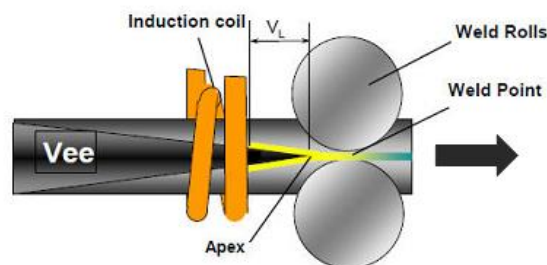

Fig. 1 – Joining of pipes by HF induction welding
Tubes represent the most important semi-finished product in terms of steel production [1]. High-frequency (HF) induction welding is the most common welding process to produce steel pipes [2]. The HF induction welding process was discovered in the late 1940s, developed into reality in the 1950s, and became the main method to produce pipes in the late 1960s and 1970s [3]. Induction heating is a direct application of two fundamental laws of physics: Lenz's law and the Joule effect. By supplying an inductor with an alternating current at a given frequency (often between 50 Hz and a few hundred kHz), an electromagnetic field is created in the vicinity of this inductor. When a conductive body is immersed in these fields, it is crossed by a magnetic flux whose variations induce, according to Lenz's law, an electromotive force giving rise to eddy currents [4]. Electric resistance welded (ERW) pipes are increasingly being used in natural gas and petroleum services due to remarkable advances in fabrication, forming, welding, and other pipe manufacturing techniques. In addition, as the HF welded pipe meets the required standards, it can be economically used as a substitute for similar submerged arc welded (SAW) products or expensive seamless products under the most aggressive conditions of oil and gas production industries [5]. In the case of induction welding, the voltage is induced by the magnetic flux around the coil (without contact with the pipe) (Fig. 1) [6].